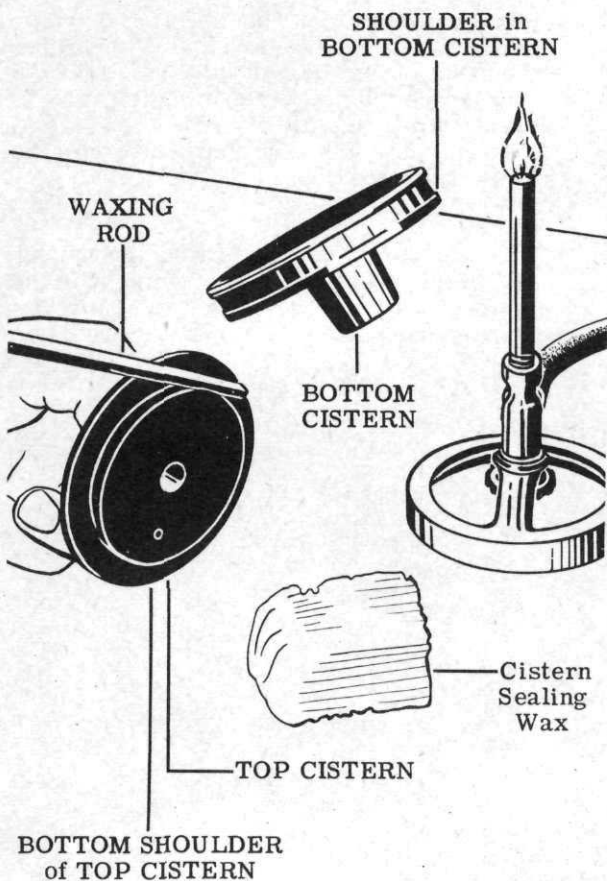
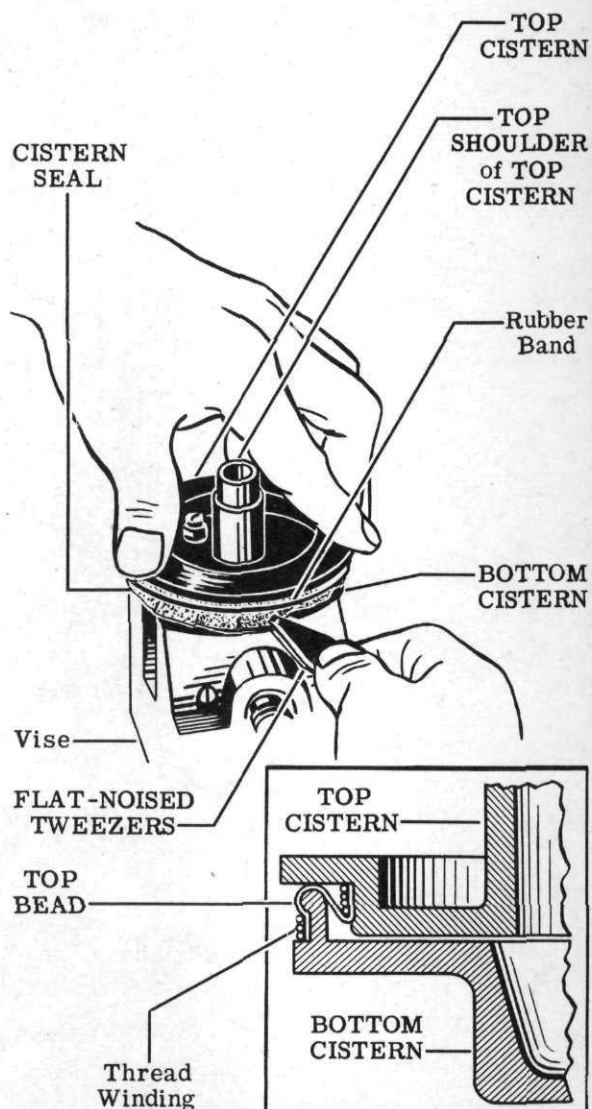

Figure 40
Figure 45
the top and bottom shoulders of the top cistern. See Fig. 40 (and also Fig. 45) for the position of these shoulders. Apply a similar coating of cistern sealing wax to the shoulder on the periphery of the bottom cistern. See "Sealing Compounds" in the Control Manual.
and spread thinly and evenly over its surface. Any excess wax or drippings are to be removed. See Fig. 40.
45. Pull the cistern seal down gently over the shoulder on the bottom cistern, and hold it in place with a rubber band. See Fig. 45.
the two cisterns are in contact. Any slack that may exist can be pulled up by means of the flat-nosed tweezers, Tool No. 13. See Fig. 45.
Start winding over the seal at the top bead on the bottom cistern shoulder. See the pullout in Fig. 45. Employ the same method as outlined in Operations 40 and 41. The rubber band may be removed after the second turn of thread has been completed.